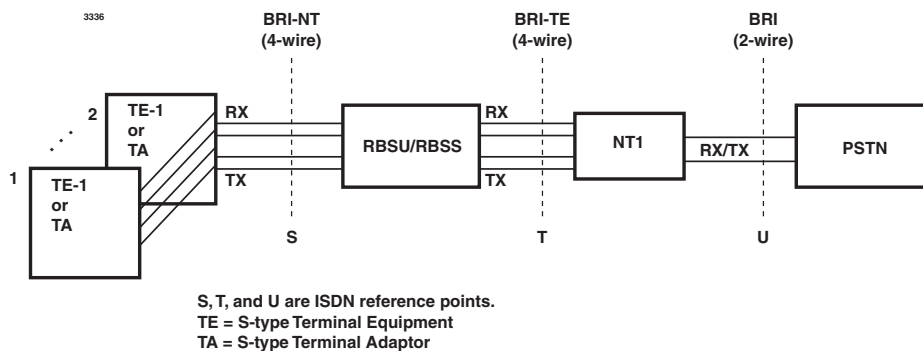

Figure 5-7 RBSU/RBSS Interfaces between the S/T Reference Points
The RBSU circuits are four-wire S/T type circuits and connect to the Public Switched Telephone Network (PSTN) BRI lines using an Network Terminator unit (NT1); or, on the station side, they can connect to ISDN Terminal Equipment (TE) or Terminal Adapters (TA) as shown in Figure 5-7.